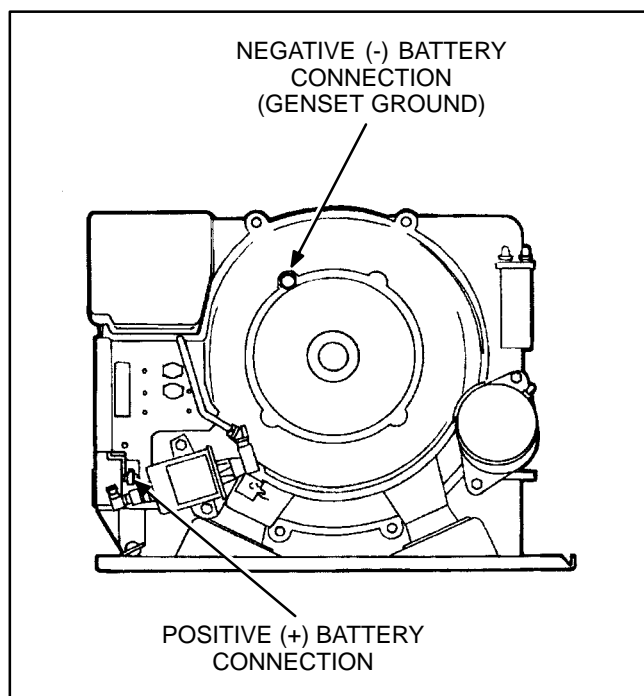

FIGURE 7-8. BATTERY CABLE CONNECTIONS
(see Figure 7-8). (Do not connect the other end to the battery at this time.)
2. Connect one end of a short, negative (-) battery cable (of the same size as the positive (+) battery cable) to the vehicle frame near the genset. Connect the other end to the genset ground. See Figure 7-8.
Positive (+) Battery Connection. Connect one end of the positive (+) battery cable to the genset B+ post. Tighten the B+ connection securely (see Figure 7-8 on Page 7-7).
The genset ground, as shown in Figure 7-8 on Page 7-7, is also the bonding terminal for grounding the genset to the vehicle frame (ground). This connection must be made for proper and safe operation of the genset. Onan recommends that this connection be made in one of two ways based on which negative battery connection method was used.
- the genset ground (see Figure 7-8) and the vehicle frame (ground).